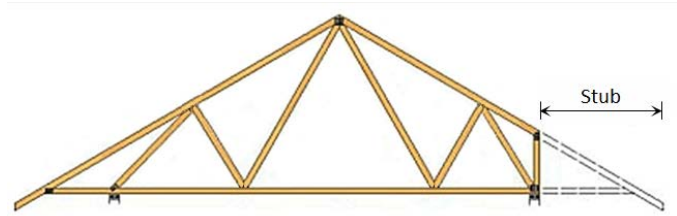

Figure 136: This truss will be stubbed on its right side.
- *Right* – Specifies that the right side of the truss is to be stubbed. (See Figure 136 at right.)